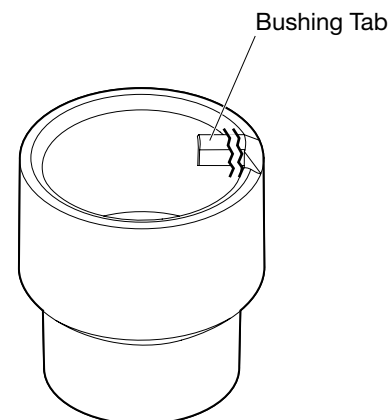
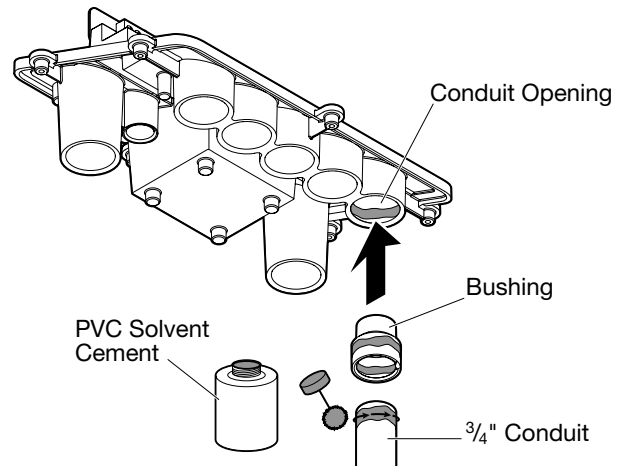

FIG. 5. Conduit Reducer Bushing Tab
FIG. 6. Using 3/4" Conduit
- b. For ¾" conduit (See FIG. 5 and FIG. 6):